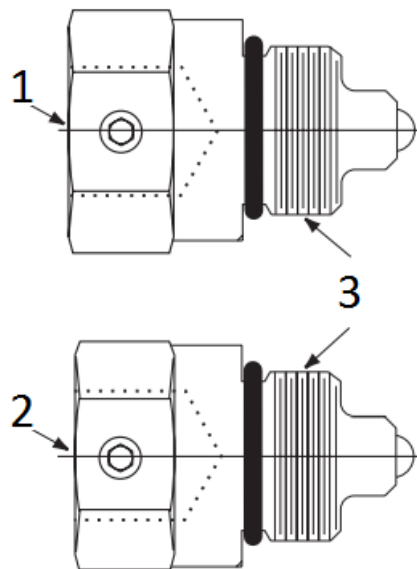

Figure 4-1
2. The "old style" adaptor accepts a 3/4" threaded switch, and the new style accepts a 9/16" threaded switch. See figure 4-1.